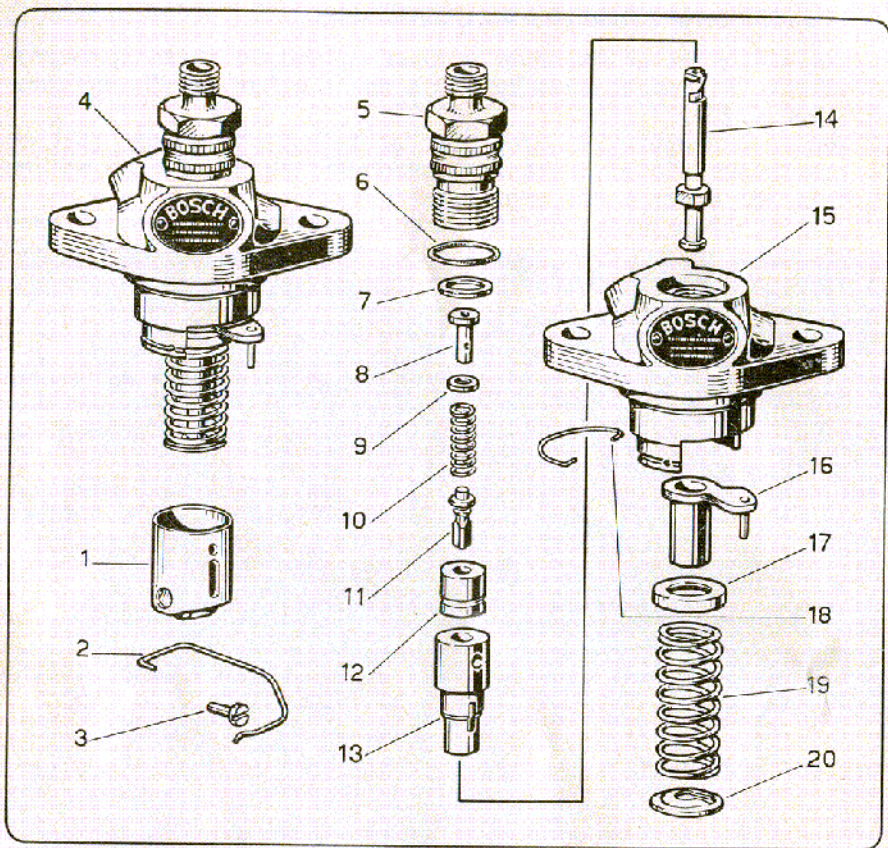

Fig. 15
- c) Remove the delivery connector, spring, filler and valve (but not its seat), see fig. 15.
It is of the type corresponding to « BOSCH PFE 1 Q 70/14 » and consists of two distinct pieces (fig. 15):